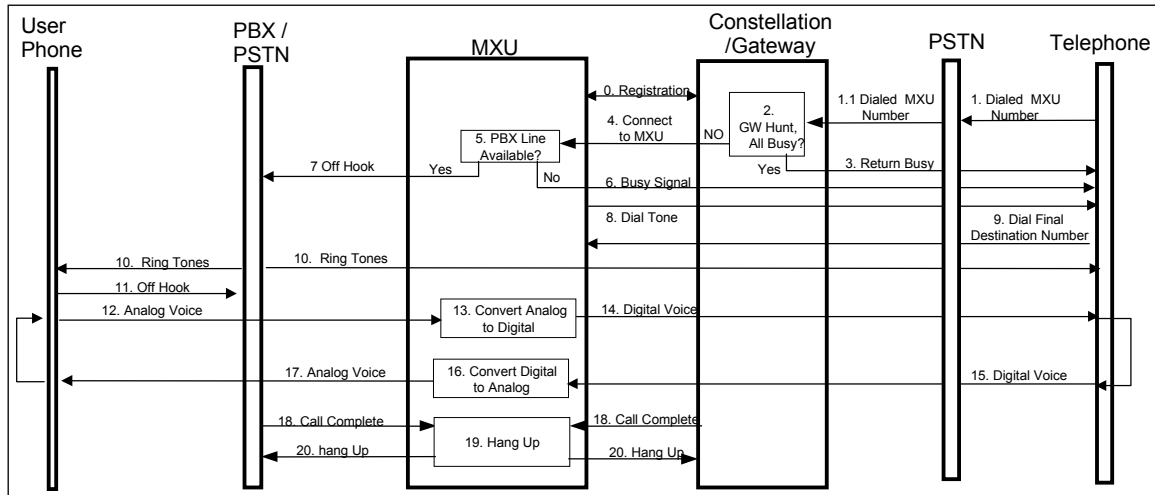

Figure 6.5.1-1: MXU Terminated Calling Scenario
A simplified scenario of a PSTN-connected phone making an MXU-terminated call is illustrated in Figure 6.5.1-1. When a call is placed from a phone connected to the PSTN, the user initiates the call by dialing one of the MXU MSISDN numbers (1). The PSTN routes the call to the Iridium Gateway which connects to the MXU (2). If the MXU is in use, the Gateway issues a busy signal to the user (3). The user will need to dial the next MXU MSISDN number.
A simplified scenario of a PSTN-connected phone making an MXU-terminated call is illustrated in Figure 6.5.1-1. When a call is placed from a phone connected to the PSTN, the user initiates the call by dialing the MXU MSISDN #1 (1). The PSTN routes the call to the Iridium Gateway which determines whether one of the four LBTs connected to the MXU is available (2). If no lines are available, the Gateway issues a busy signal to the user (3).